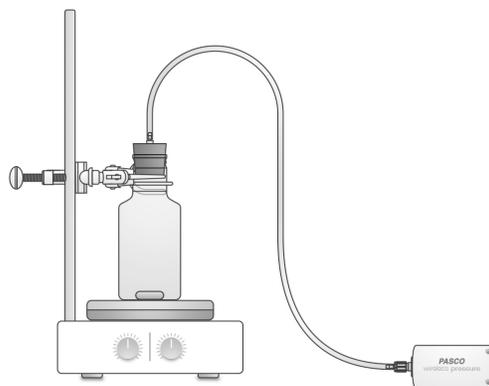

Figure 1: Setup with stirrer
- Set up the equipment as shown in Figure 1.